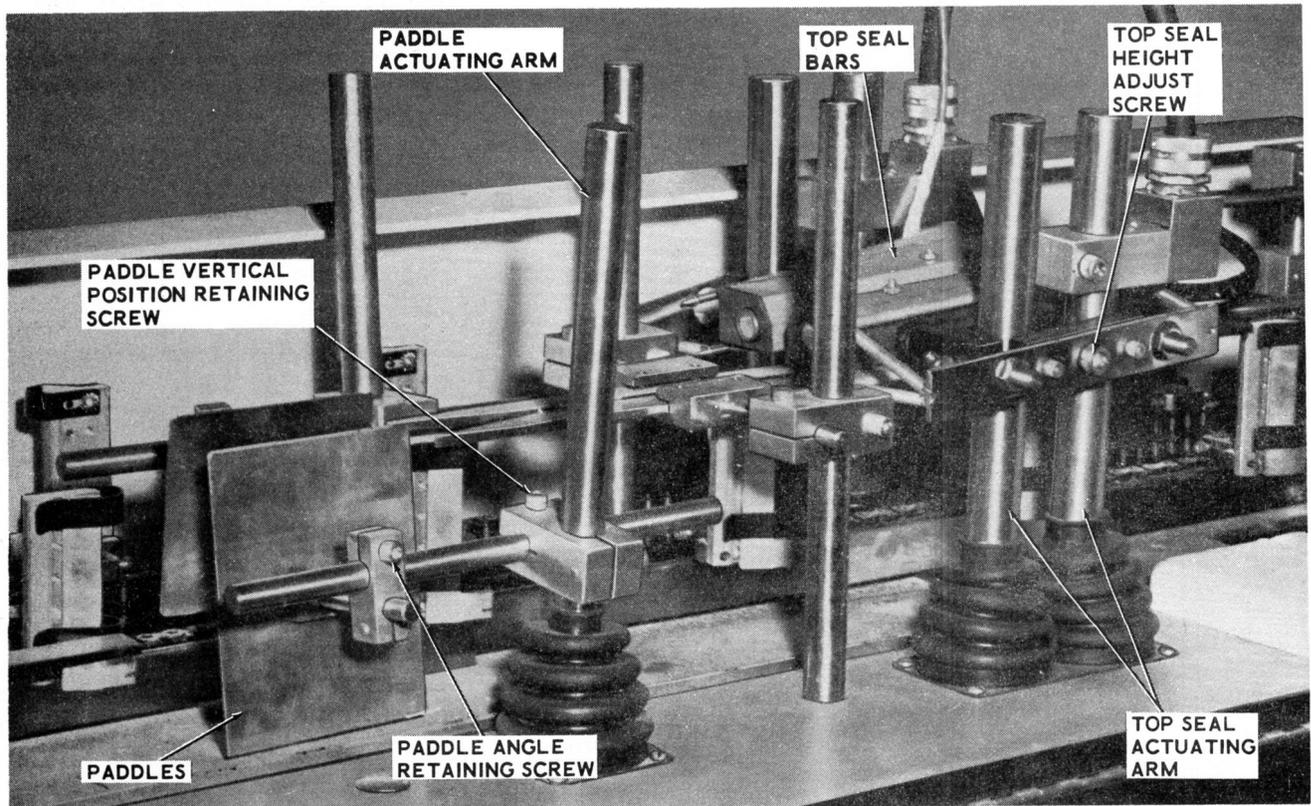

Figure 3-62. Top Seal Mechanism
After the pouches leave the fill stations, they sag from the product fill and must be reformed before the top seal station. The purpose of the paddles (Figure 3-62) is to form the filled pouch into a taper with the top of the pouches together to remove air and distribute the product within the pouch. The paddles are mounted to a cycle shaft cam operated rocker arm. The paddles are positioned on the rocker arm to press against the pouch when the arms come together and form the pouch ready for top sealing. The paddles must be adjusted to suit the size and contour of the pouch being run. Loosen the retaining screws (Figure 3-62) securing the paddle to the rocker arm. Adjust the paddle to the pouch with the top of the paddle in closest to the machine centerline and the bottom further away from the machine centerline to form a taper effect. Tighten all retaining screws after adjustments have been made.
The top seal bars (Figure 3-62) provide the top and final seal on the pouch following the depositing of the product. The top seal bars are rectangular in shape and are used on both the fin and gusset type pouches. The top seals are made by the seal bars as they apply both heat and pressure to the web material. The pressure applied to the pouch by the top seal bars is preset and not adjustable. The height of the seal bars can be adjusted to suit different size pouches. Sometimes, due to the weight of product in the pouch, the end of the pouch opposite the clamp tends to be lower than the clamped end. The position of the top seal bars must be arranged to compensate for this unevenness. For this purpose, the seal bars are sometimes lower on the left (side opposite pouch clamp) than on the right (clamp side). The heat controls and settings are the same as outlined for the bottom and side seals.
(1) Loosen each front top seal bar height adjustment screw (Figure 3-62) and move up out of position.
(2) Adjust rear bar for height.
(3) Set front bar to match rear bar.